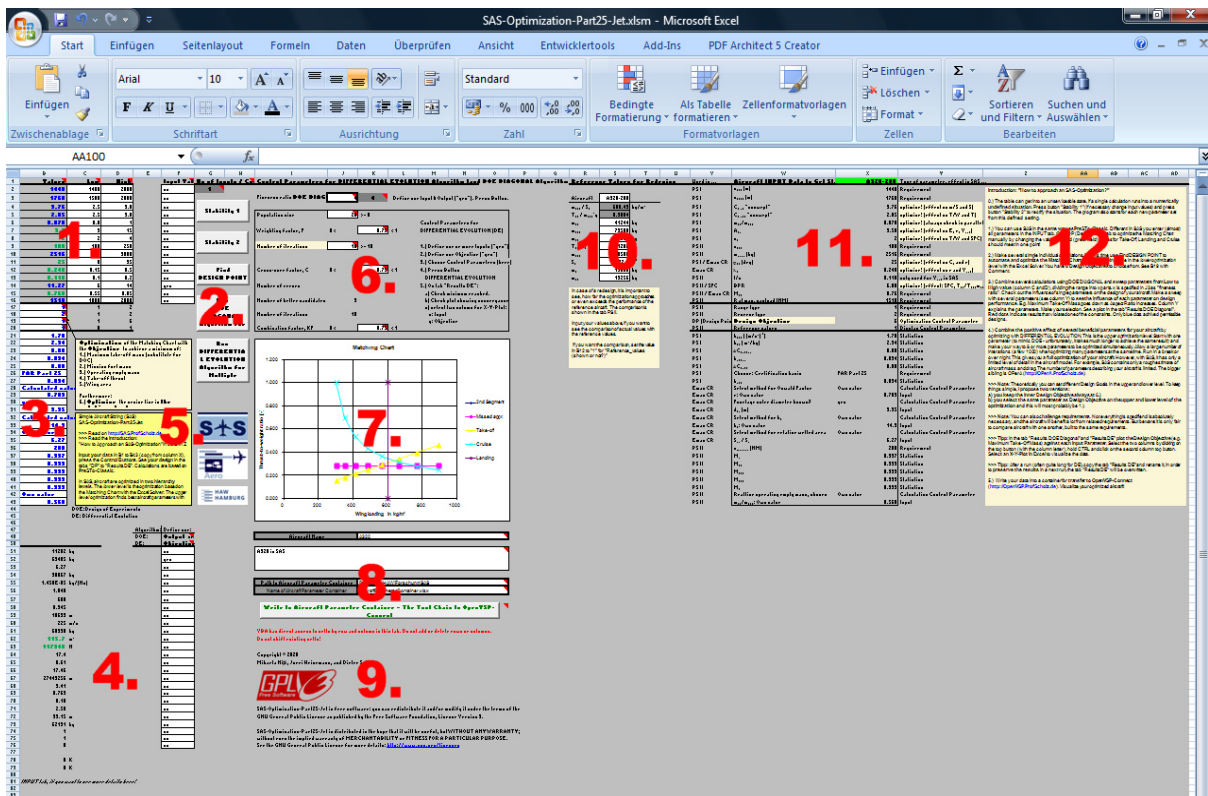

Figure 4: Overview of SAS-Part25-Jet
Figure 4 shows an overview of the main window of SAS-Part25-Jet. This is the main tab to work with and there is little need to go to another tab (besides the tabs with the results). Not everything of the INPUT tab fits on one screen, and there is no need for it. Most important elements are in the upper left corner. These are the numbered areas:
1. **Read the Tutorial:** "How to approach an SAS-Optimization?" (See Number 12 in Figure 4).